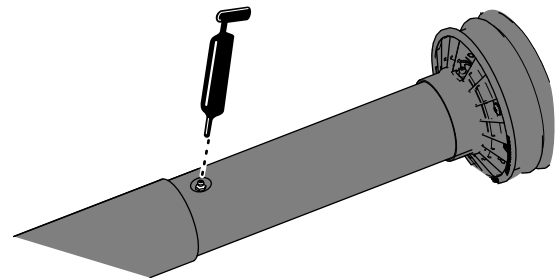

Figure 10
3. Partially extend the PTO drive shaft to access the grease fitting near the middle of the inboard drive-shaft guard (Figure 10).
4. Apply grease to the grease fitting for the telescoping drive-shaft joint as shown in Figure 10.